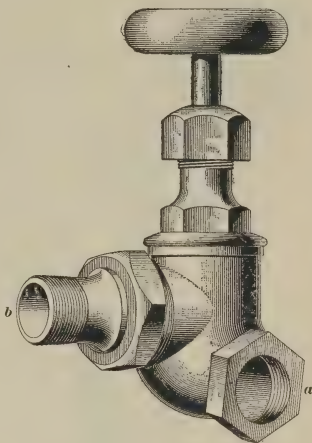

FIG. 77
**123.** An **offset corner valve** is shown in Fig. 77. It is the same in construction as the offset globe valve, except that the inlet *a* and outlet *b* are at right angles. It is really an offset angle valve with the outlet at an angle of  $90^\circ$  to the axis of the inlet seat at the lower level. The construction of the working parts is the same as that of any globe valve. Offset corner valves are made right hand or left hand to suit the connection in the radiator, and are listed by most makers. The corner valve with the inlet and outlet in the same plane is not made by many manufacturers.
**124.** All the valves mentioned in the previous articles can be obtained with special key handles, and also with a shielded stem that protects the square that the key fits, so that they cannot be moved without the key. These valves are useful in schools, asylums, etc., as unauthorized persons cannot meddle with them. They are also made with a ground union joint for connecting to the radiator, as shown in Fig. 77, which makes it easy to connect and disconnect the radiator without disturbing the pipe connections.